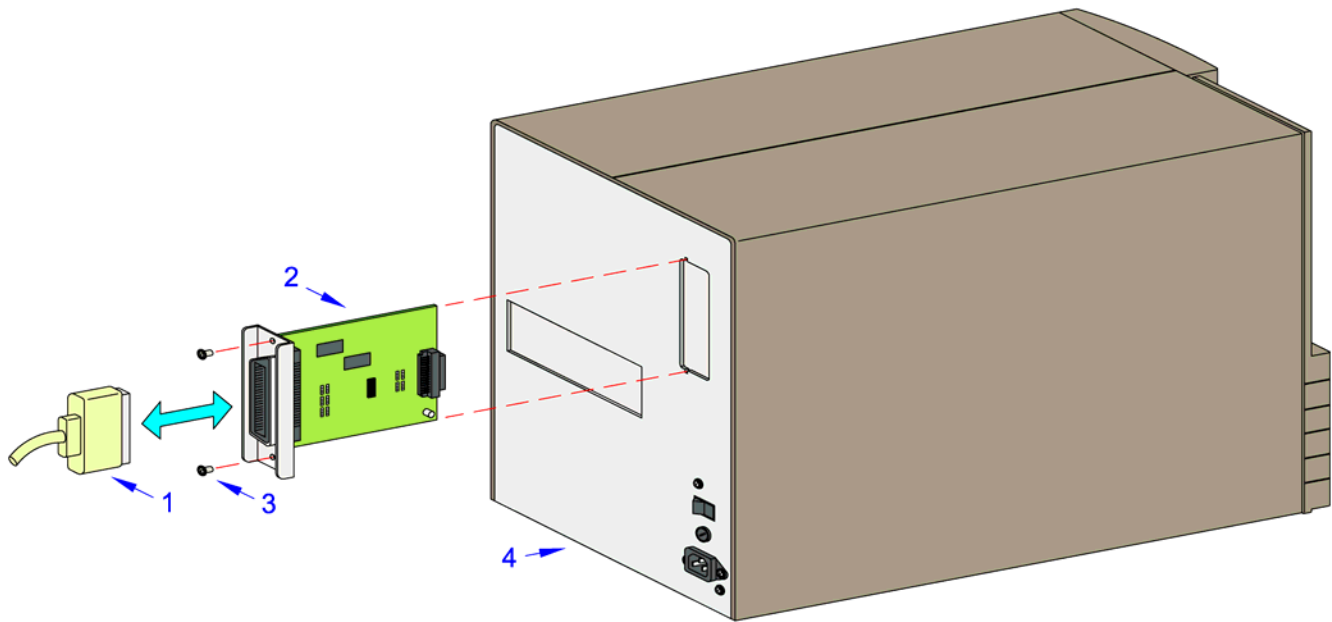

Figure 3-7, Interface Installation
2. Route interface cable (1, Figure 3-7) from host computer to interface board (2).
3. Insert interface board (2) into printer (4) and secure using two screws (3).
4. Connect interface cable (1).